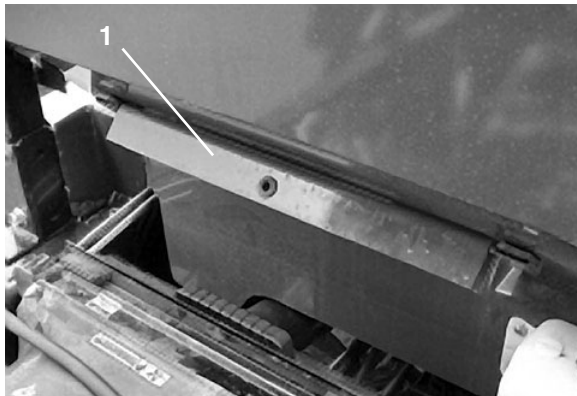

Figure 35
Using Bed Safety Support (Fig. 35 & 36)
2. Remove bed support from storage brackets on back of the roll-over protection panel (Fig. 35).